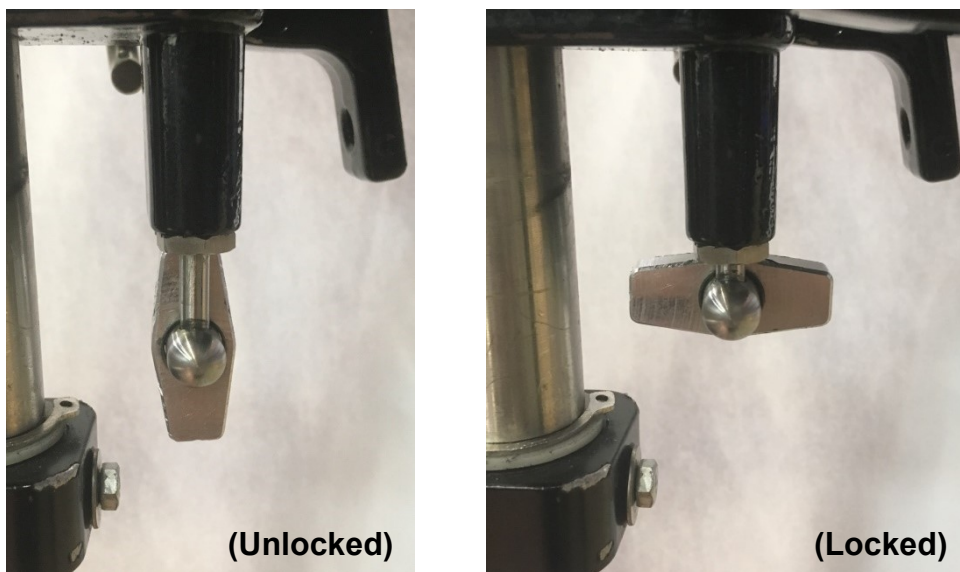

Figure 32: Tilt Lock Lever
- Unlock the lower tilt lock mechanism by pulling the handle down and rotating 90° to sit as shown in **Figure 32**.